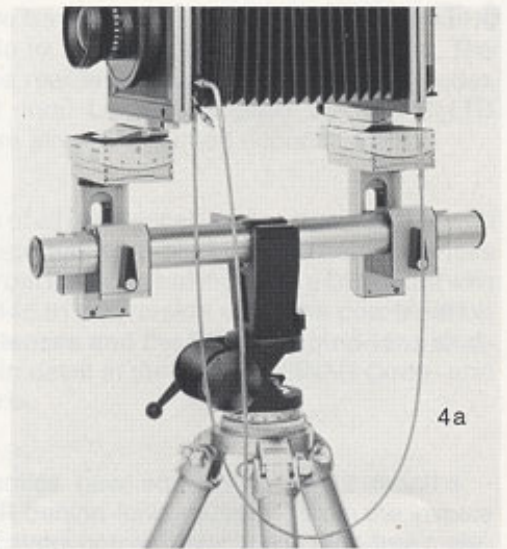
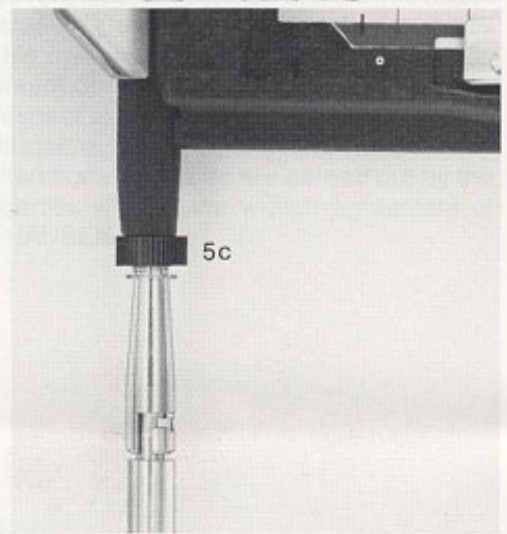

Fig. 4
Fig. 5
(figs. 4, 5 and 10)
- Fully screw in the cable at the shutter end (the end with the thread) as shown in figure 4, then.
- Screw the bayonet connector in at the camera back – but do not tighten yet – and put in the cable (fig. 4 and fig. 5).
Adjust the cable length with the milled nut 5c (fig. 5) on the bayonet connector until the upper edge of the lever 1b on the shutter is **between** the two red index marks 5b. This completes the adjustment. Firmly tighten the nut 5c. Remove the film holder from the camera back.